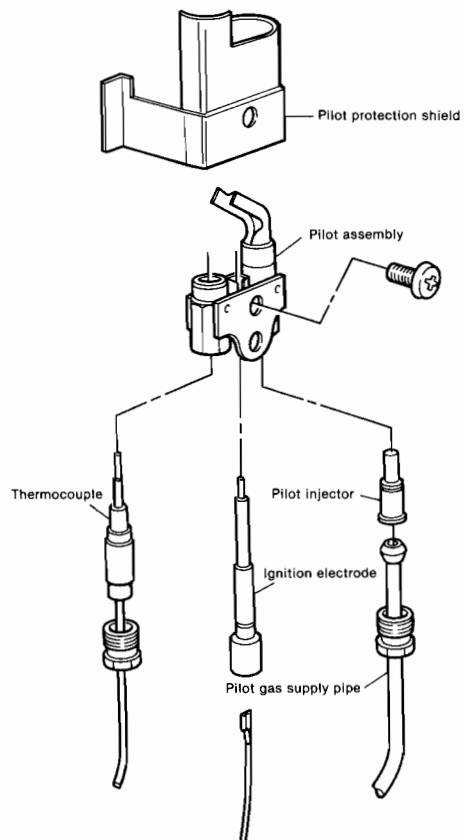

Fig. 36
- i) Unscrew the pilot burner supply compression nut, and remove the supply pipe and injector. (Injector is a sliding fit to supply pipe). The injector code is 38/33A (fig. 36).